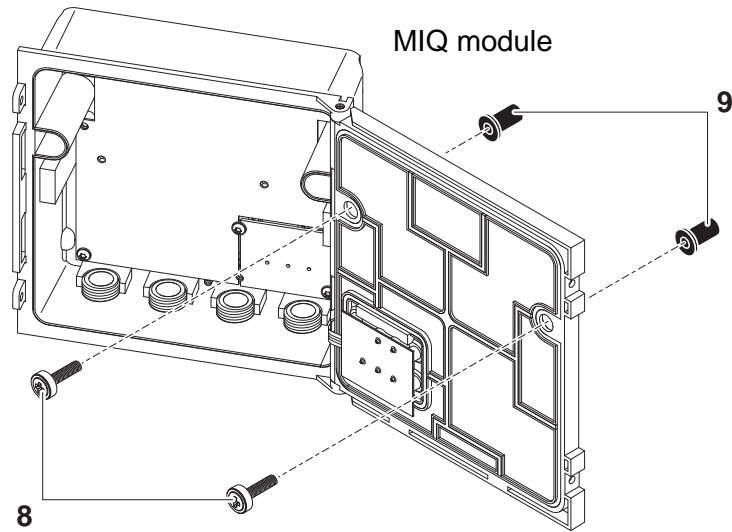

Fig. 3-9 Premounting the ISO blind nuts (variant 2)
- 6 Insert the cheese-head screws (pos. 8 in Fig. 3-9) with the plastic washers in the drilled mounting holes in the module lid and loosely screw in the ISO blind nuts (pos. 9).
| 7 | Attach the prepared MIQ module to the back of the DIQ/S 182-XT-4-PR. At the same time, ensure that the two clips on the DIQ/S 182-XT-4-PR click into place in the lid of the MIQ module. Subsequently, tighten the two screws (pos. 8 in Fig. 3-9). |